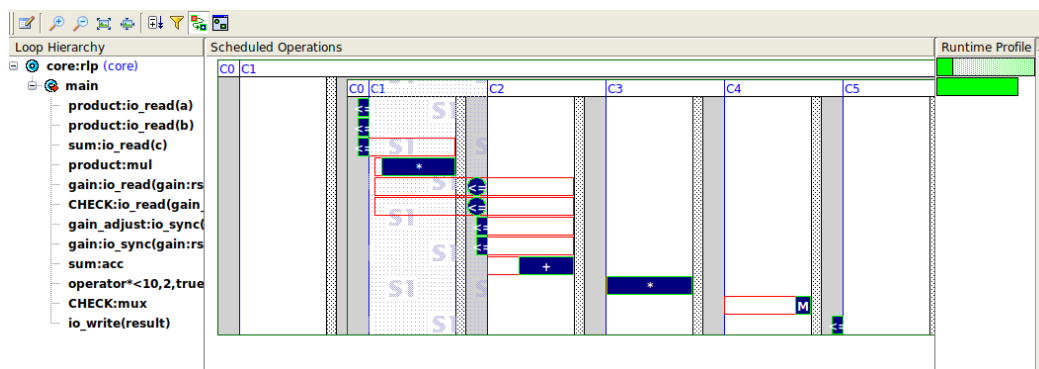

Figure 2. Scheduled operations.
19. Click on *Schedule* in the *Task Bar*. This schedules the resources on the time diagram. The *Schedule* tab opens and, expanding *main*, the timing of the execution of each resource is shown. Observe the schedule of the product, sum, product and mux in separate clock cycles (Fig. 2).